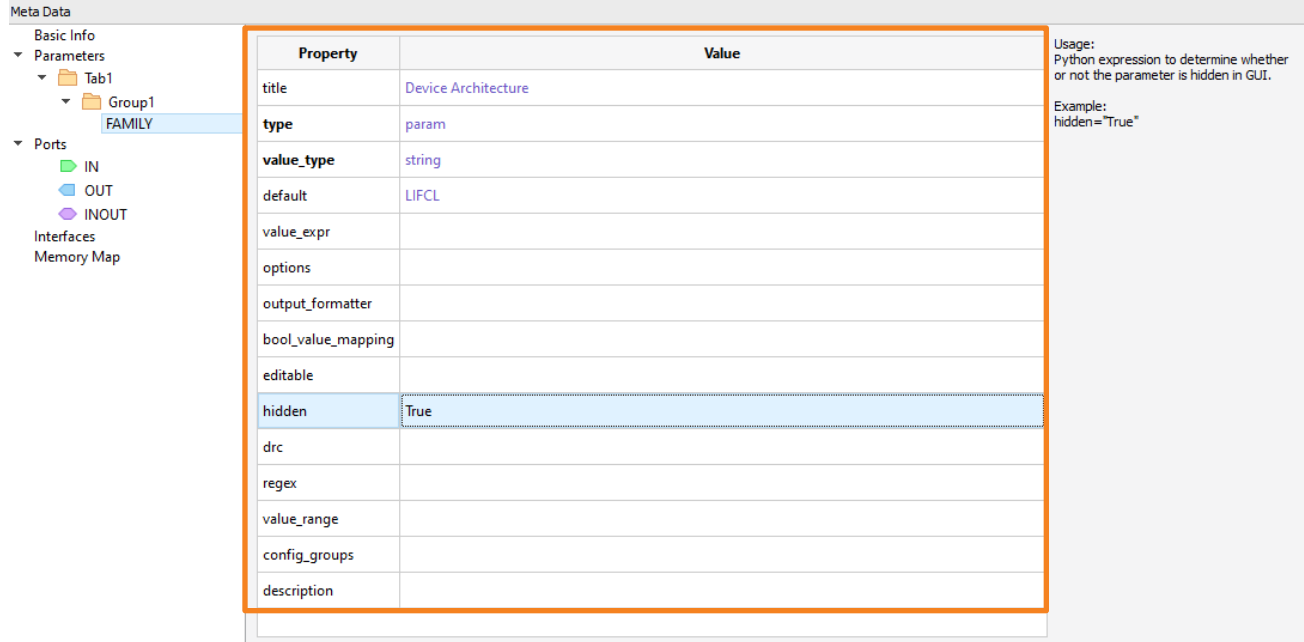

Figure 3.17. Configure a Parameter
- Double-click the property value field to enter the desired parameter value, or select the desired value from drop-down menu (Figure 3.17). The properties are thus configured. Property listed in bold must be configured. The details of each property is shown in Table 3.1.